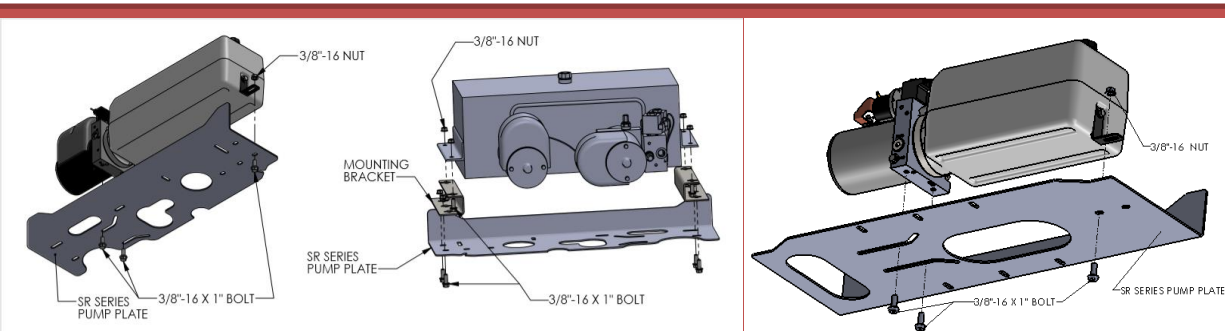

Figure 2: Power Unit Mounting
1. Mount the power unit to the location of choice using the supplied hardware as shown in **Figure 2**. The power unit must be mounted horizontally to allow for use of full reservoir oil capacity.